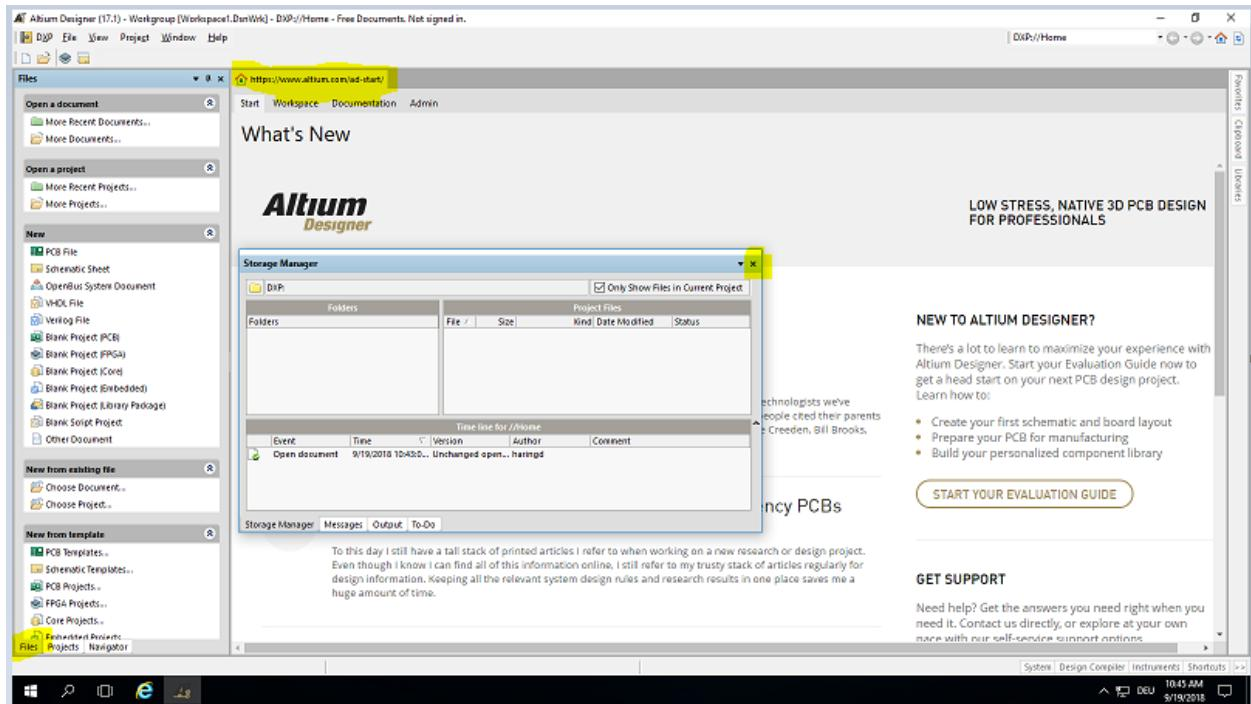

Figure 7: Altium Designer 17.1 screen shot first time started.
5. Now, to start with Altium Designer, it is recommended to close the Storage Manager dialog by a single left click on the highlighted cross. Then close the window <http://altium.com/ad-start/> by right clicking on it and chose Close All Documents. Then close the file dialog at the lower left corner by right clicking on it and chose Close 'Files'. Figure 7 shows the highlighted spots to click on.